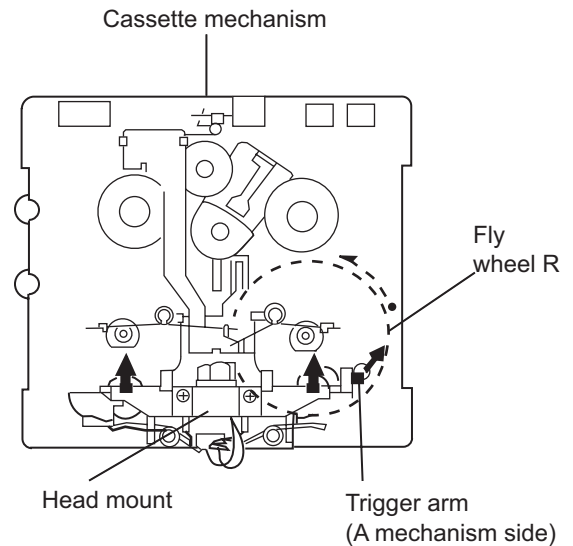
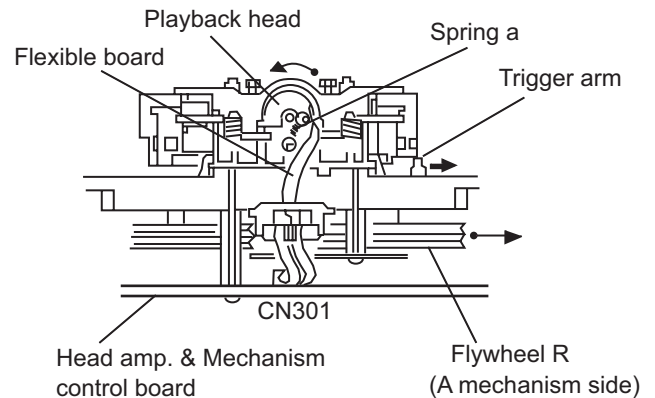
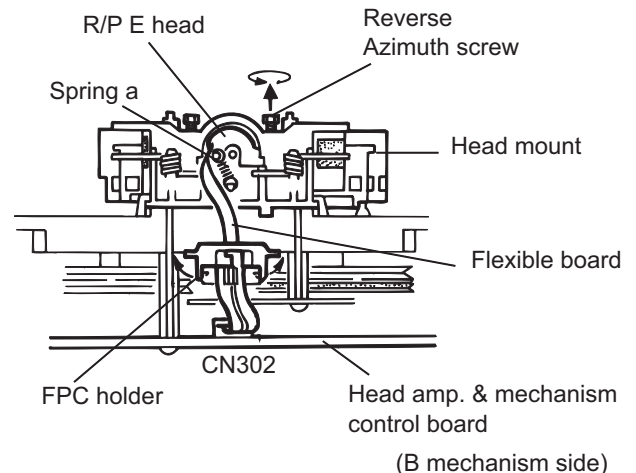

Fig.1
Fig.2
Fig.3
(See Fig. 1 to Fig. 3)
- (1) While shifting the trigger arms seen on the right side of the head mount in the arrow direction, turn the flywheel ( R ) in counterclockwise direction until the head mount has gone out with a click (See Fig. 1).
- (2) When the flywheel (R) is rotated in counterclockwise direction, the playback / recording & eraser head will be turned in counterclockwise direction from the position in Fig. 2 to that in Fig. 3.
- (3) At this position, disconnect the flexible board (outgoing from the playback / recording & eraser head) from the connector CN31 on the head amplifier & mechanism control board.
- (4) Remove the flexible board from the chassis base.
- (5) Remove the spring a from behind the playback / recording & eraser head.
- (6) Loosen the reversing azimuth screw retaining the playback / recording & eraser head.
- (7) Take out the playback / recording & eraser head from the front of the head mount.
- (8) The playback / recording & eraser head should also be removed similarly to steps 1 to 7 above.